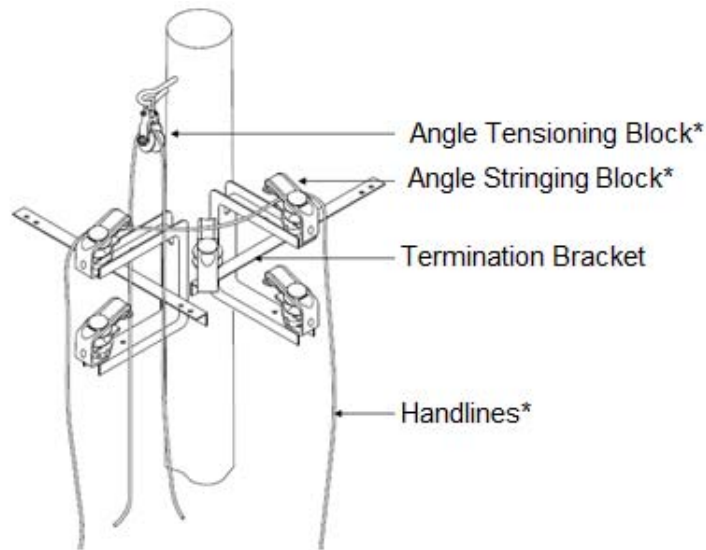

Figure 5-4: Angle Structure (61° – 90°)
- 5 x PAS-1, Angle Stringing Block, positioned as shown in Figure 5-4. Because of the bracket arrangement the outside phase requires only one PAS-1 for stringing purposes.